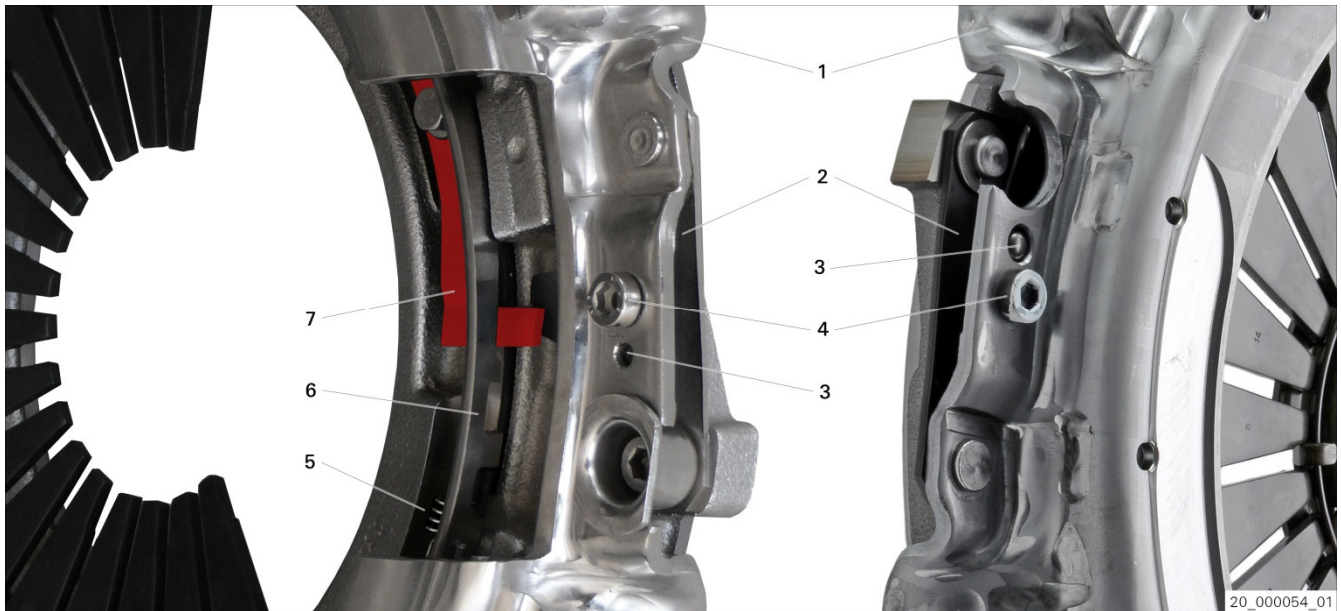

Fig. 1: XTend pressure plate with stop screw
- Always replace the pressure plate when installing a new clutch disk. The automatic wear compensation device (fig. 1) **cannot** be reset.
XTend pressure plate with stop screw (Fig. 1)